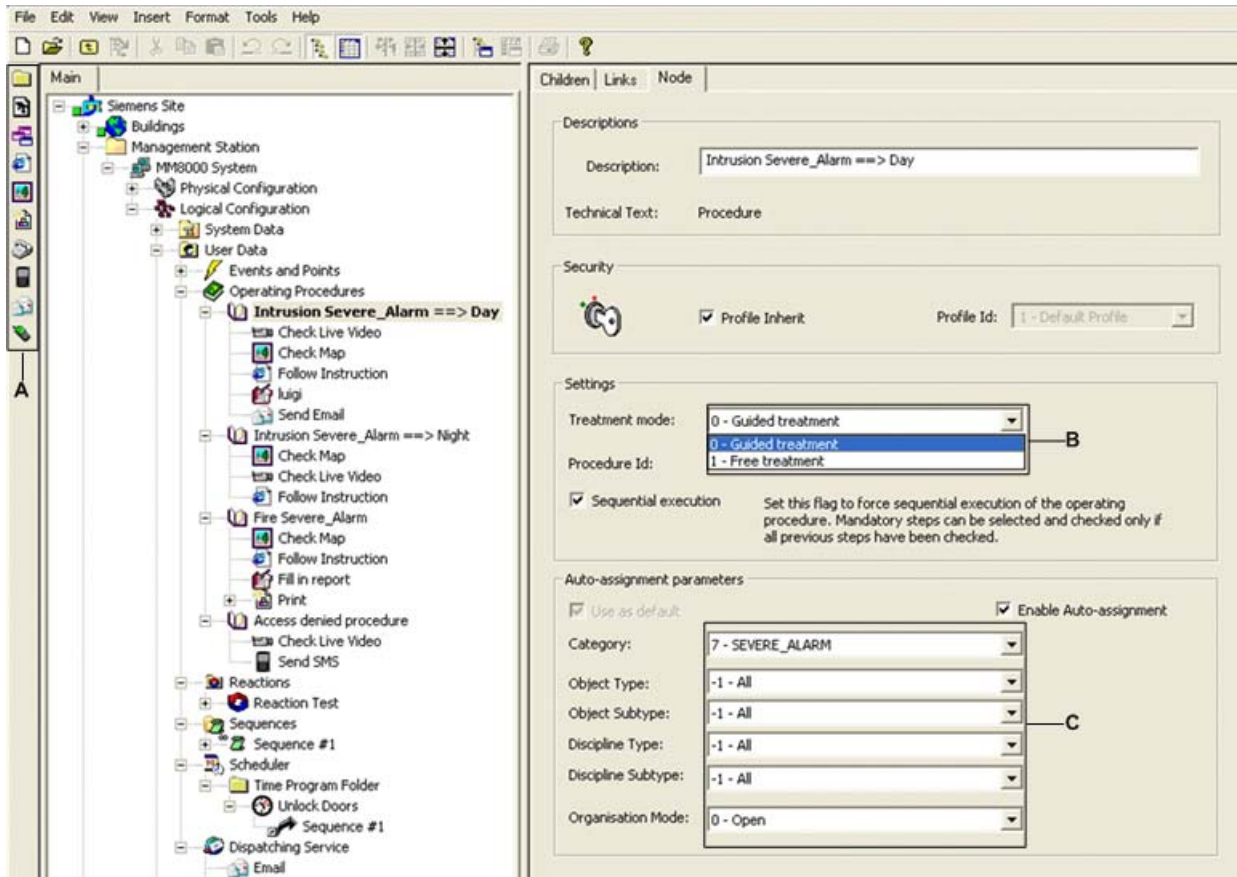

Fig. 1 Define the operating procedure parameters in the Node tab
- Select **Free treatment** to provide the operator with a set of tools to treat the event. (See B in Fig. 1.)